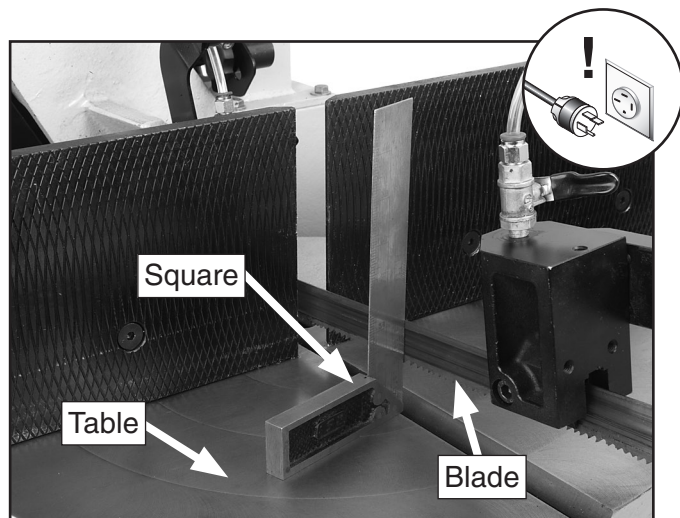

Figure 57. Checking blade squareness to vise.
4. Place a quality square on the table and the side of the blade (**Figure 57**) to verify the blade is square with the table.